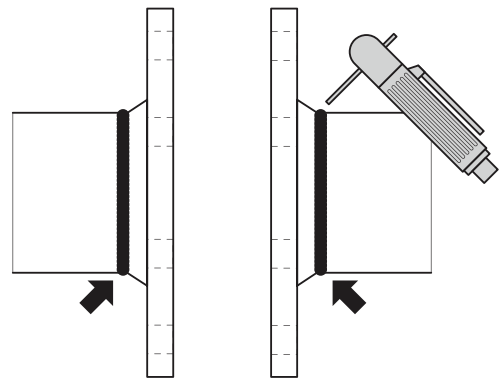

Fig. 26.
- Seam weld the entire flange / piping connection for both flanges. (Fig. 26)